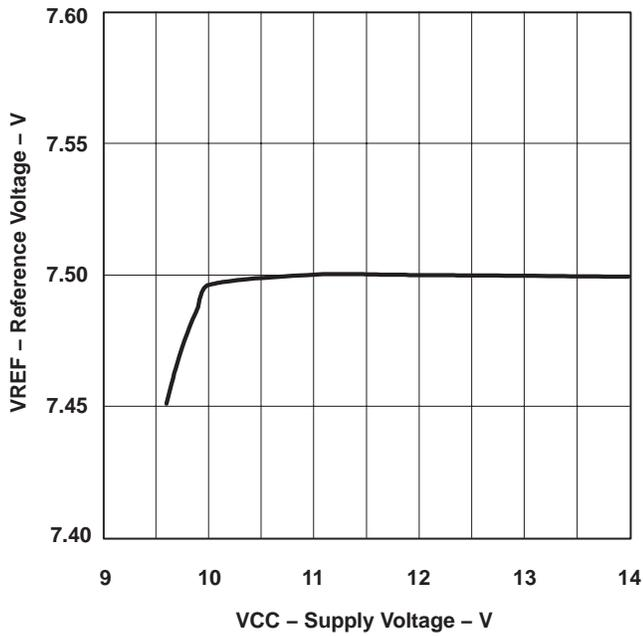

Figure 5
3. See Figure 5 for reference variation for $V_{CC} < 10.8\text{ V}$.